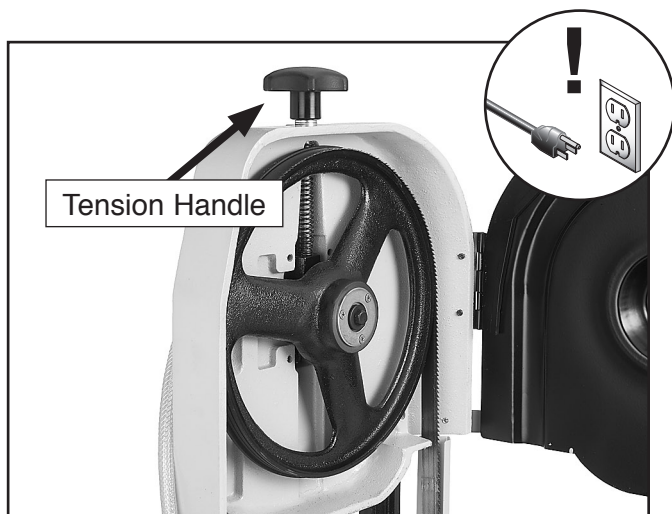

Figure 43. Tension handle and blade.
4. Loosen the tension handle in **Figure 43** and slip the blade off of the wheels.